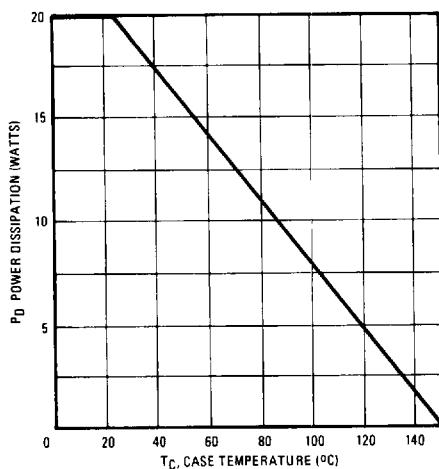

Fig. 14 — Power Vs. Temperature Derating Curve
**Appendix A:** Figure 14, Peak Diode Recovery dv/dt Test Circuit – See page 1506